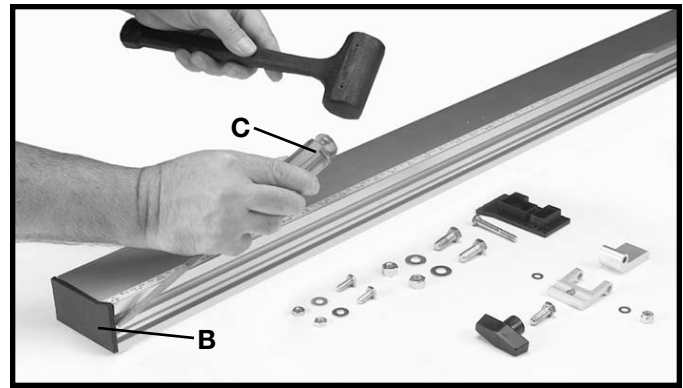

Fig. 52
2. The guide rail has end caps inserted into each end of the rail. Remove the end cap (B) Fig. 52, by inserting a flathead screwdriver (C) into the channel in the guide rail and press outward against the inside of the end cap (B) as shown. The end cap (B) will pop out. **NOTE:** Do not attempt to remove the end cap by forcing the screwdriver between the end cap and the end of the rail. This will damage both the cap and the rail.